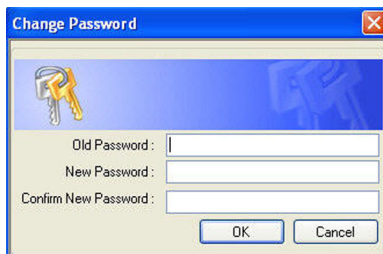

Figure 100. The Change Password dialog box.
1. Select **User > Change Password** from the main software window menu to open the Change Password dialog box (Figure 100).